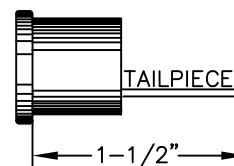

Fig. 2
- H) If the cylinder turns hard, the tail piece is too long and needs to be cut as Fig. 2.
Fig. 2 denotes Detex cylinder ECL-445, 5 pin. For 6-7 pin rim cylinder use ECL-1595 escutcheon and cut tailpiece accordingly.
- I) Insert the key in the cylinder and turn it clockwise/counter-clockwise. The cam and the key should turn freely. If the key turns, but not the cam, the *cylinder tail piece* was cut too short and has slipped out of the cam. Replace the tailpiece or the cylinder (Fig. 2).